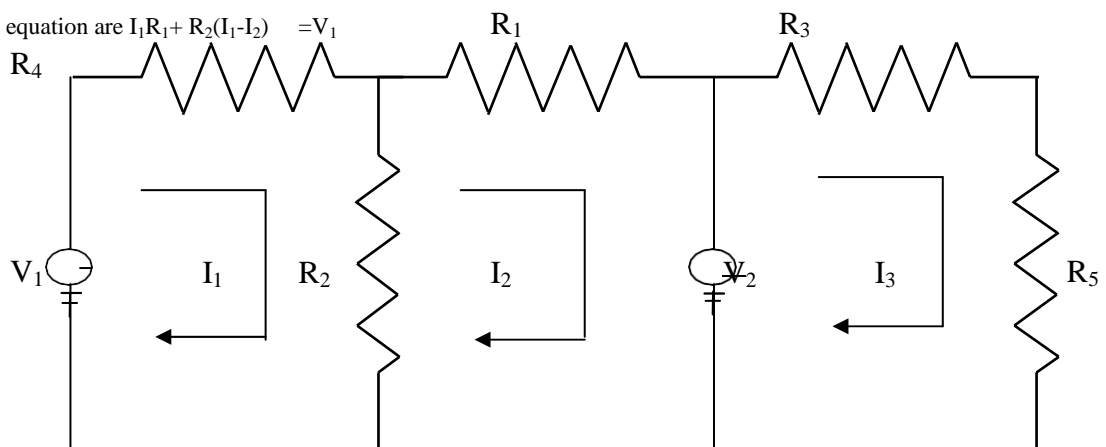

Figure 3.7
3.3 MESH EQUATIONS BY INSPECTION METHOD The mesh equations for a general planar network can be written by inspection without going through the detailed steps. Consider a three mesh networks as shown in figure 3.7